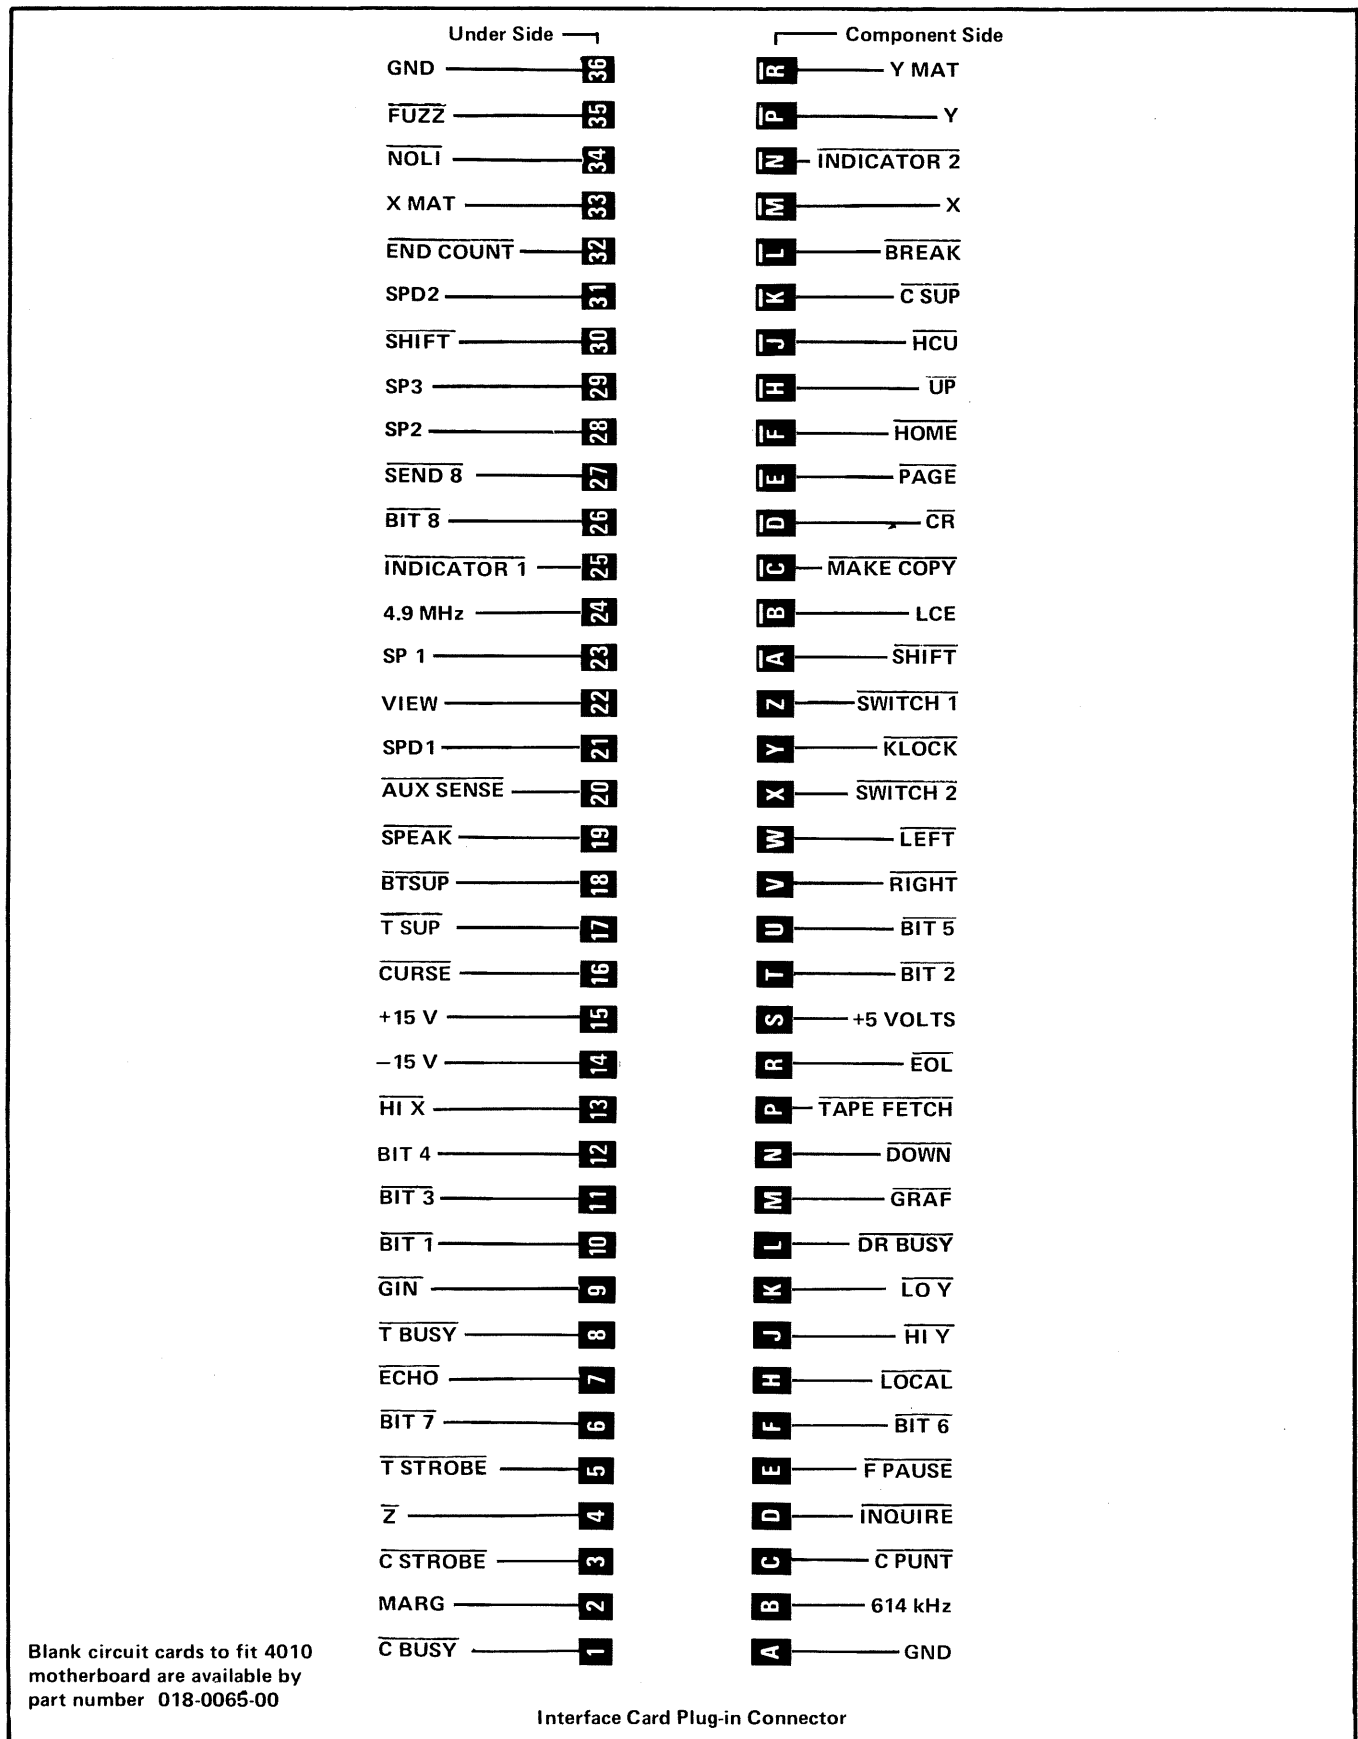

Fig. 5-5. Signal names and lines at the motherboard connector in the 4010.
4. Maintenance is simplified. Complex wiring lists and diagrams are not required to keep track of data and control signals from card to card. With the 4010, only a diagram of one of the connectors is required. See Fig. 5-5.